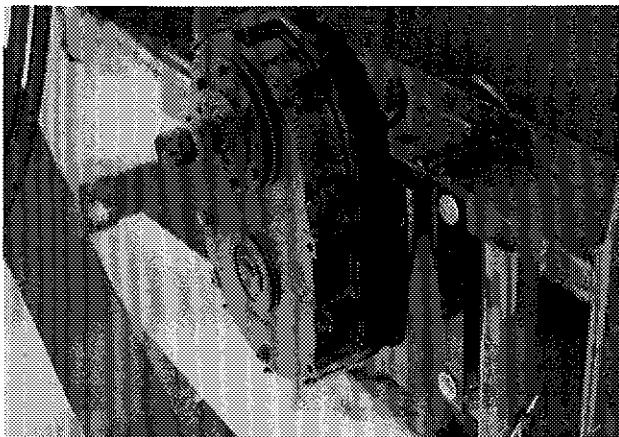

Figure 17
- 3) If your snowblower is equipped with the optional 1000 to 540 RPM reducer, install it on the gear box with the plate included (Fig. 17).